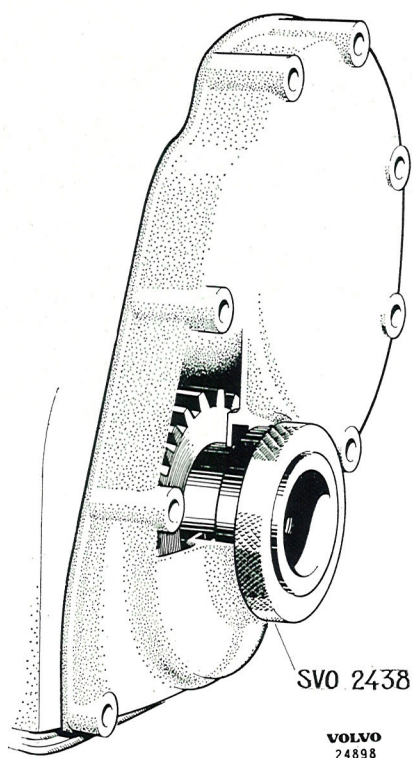

Fig. 2-43. Centering the timing gear casing
6. Center the casing with sleeve SVO 2438, see Fig. 2-43. Turn the sleeve while tightening and adjust the position of the casing so that the sleeve is not jammed. Check after final tightening of the casing that the sleeve can be easily rotated without jamming.